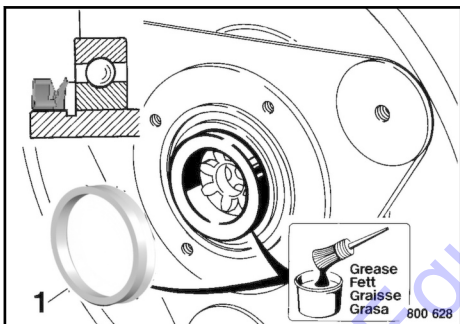

Fig. 247
4. Install the new V-ring 1 ↪ Fig. 247 and grease it.